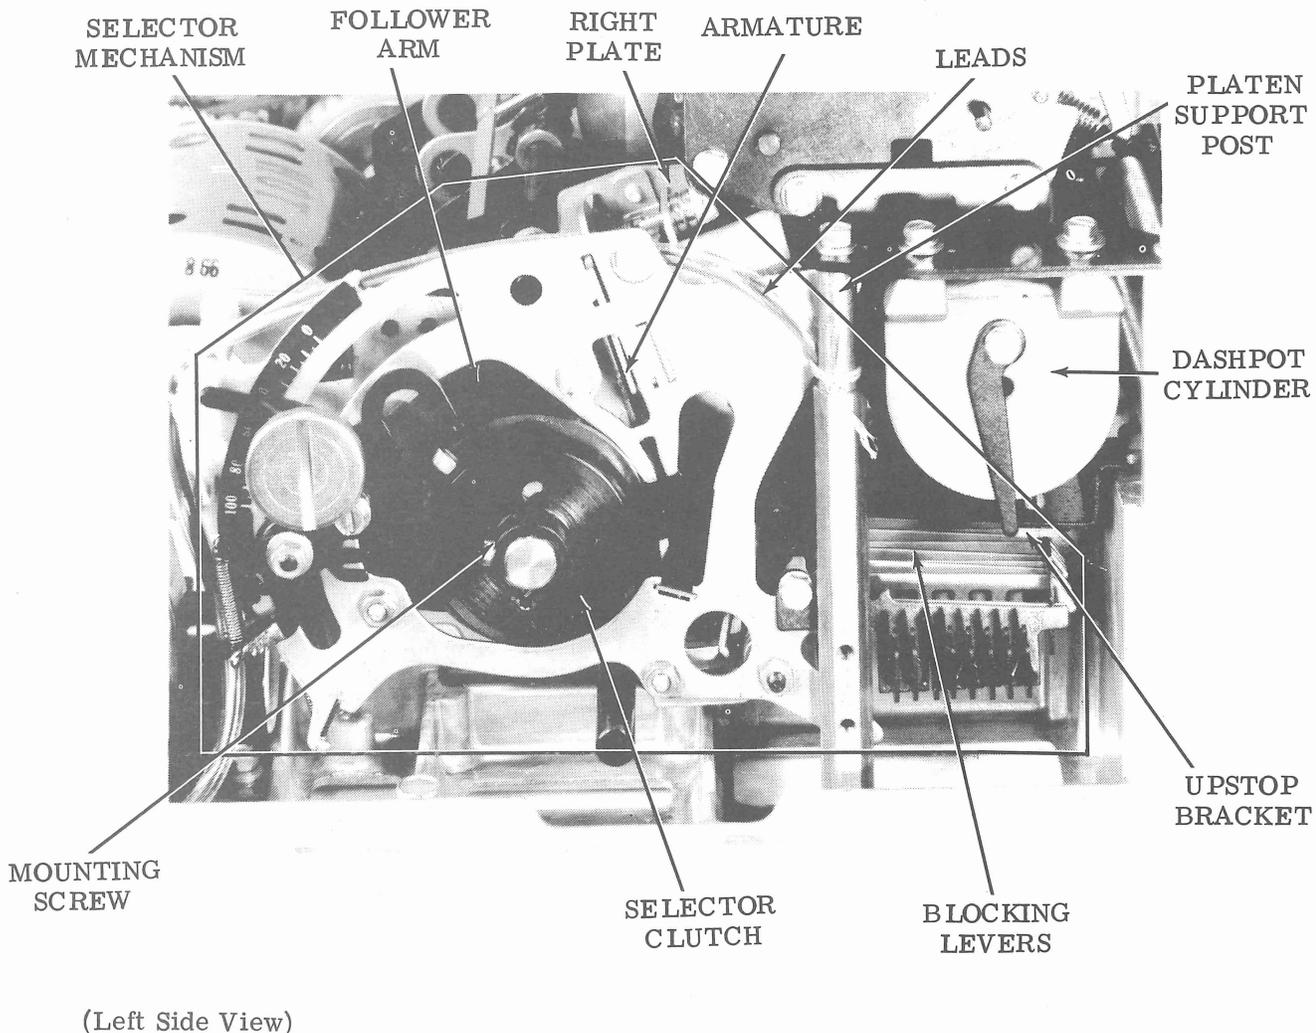

Figure 7 - Selector Mechanism
2.17 To remove selector mechanism (Figure 7), proceed as follows.